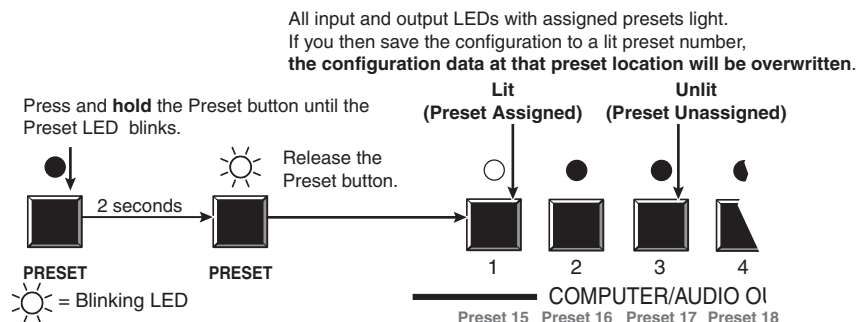

Figure 3-39 — Enter Save Preset mode
2. Press and **hold** the Preset button for approximately 2 seconds until it blinks (figure 3-39).